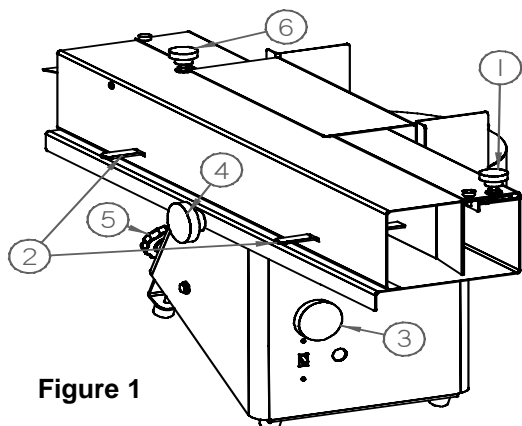

Figure 1
**NOTE:** Product can be removed easier by increasing the Blade cutting height by turning the Large Black Knob [3] clockwise. (see Figure 1, page 6)
Refer to Figure 1, Page 6 for adjustment points. After turning machine off and disconnecting the power, make adjustments for desired product as follows: